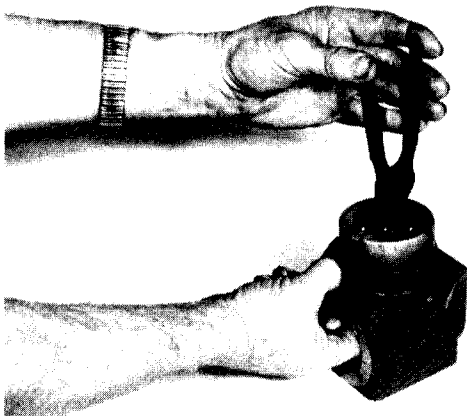

FIG. 4.19-OUTPUT SHAFT SNAP RING
7. Remove snap ring from output shaft as shown in Fig. 4.19.